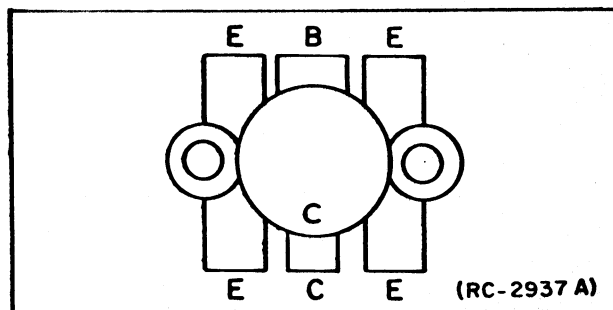

Figure 6 - Lead Identification
3. Trim the new transistor leads (if required) to the lead length of the removed transistor. The letter "C" on the top of the transistor also indicates the collector (see Figure 6).